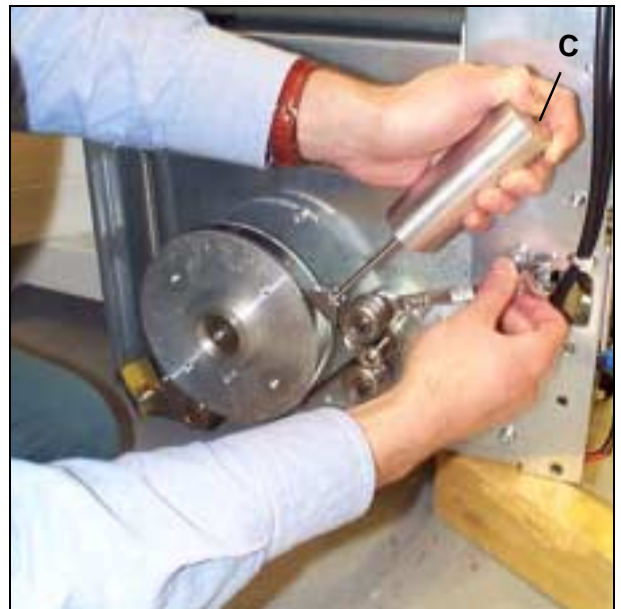

Fig. 5
- Press the special adjustment device to the transmission belt and hold a finger on top of it. When the button (**C**/Fig. 5) is in the same level as the top of the adjustment device a proper pressure is applied.